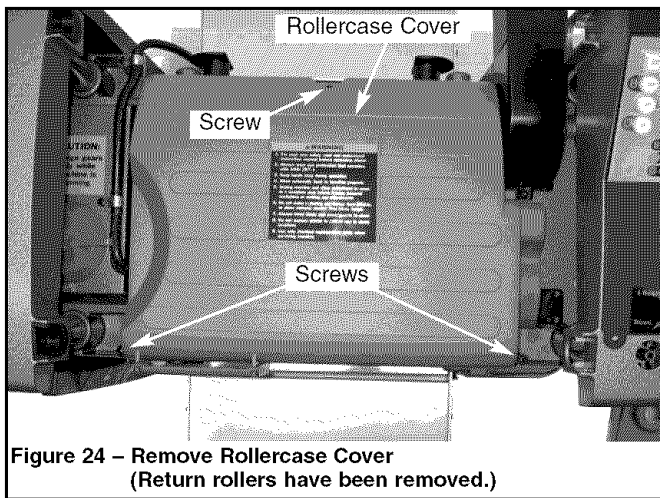

Figure 24 – Remove Roller Case Cover
- Remove the return rollers. Remove three (3) screws and lift the roller case cover up from the roller case (see Figure 24).